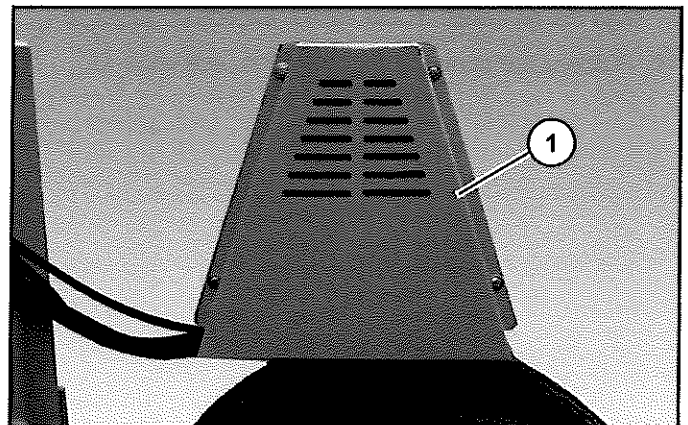

Figure 24
14. Bolt on the power travel guard (Item 1) (Figure 24).